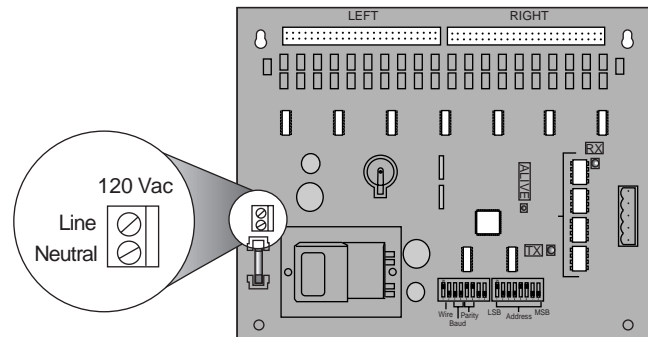

Figure 12: Wiring the power to the BCM42 monitor
1. Connect the 2-wire, 120 Vac power source to the power terminals on the signal acquisition board (Figure 12).